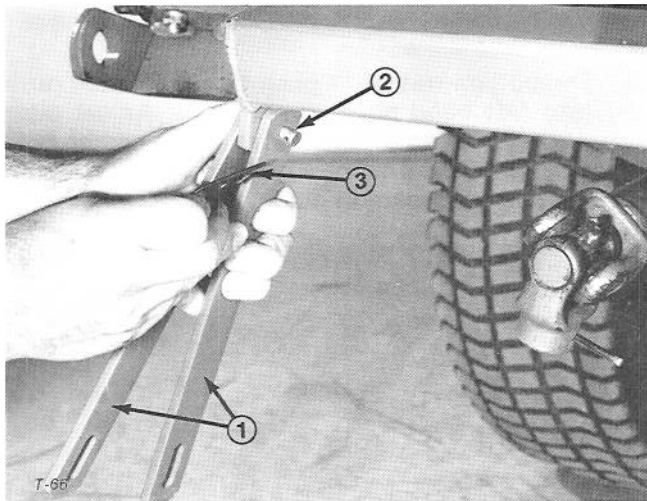

Figure 5
5. Install lift straps onto lift arm on both sides. Secure with clevis pin and hair pin (Fig. 5).